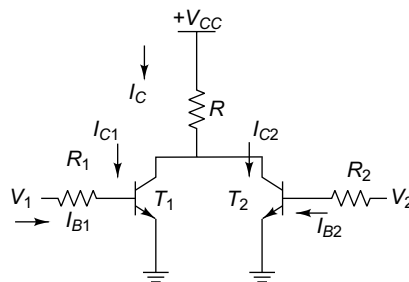

Fig. 6.49 Circuit of Ex. 6.30
6.30 Determine I_{B1} , I_{B2} , I_{C1} and I_{C2} for the transistor T_1 and T_2 as depicted in Fig. 6.49. Consider $R_1 = R_2 = 1.5\text{ k}\Omega$, $R = 4.7\text{ k}\Omega$, $V_{CC} = 5\text{ V}$, $h_{fe} = 50$, and $V_{CE} = 0.2\text{ V}$.